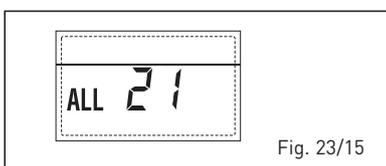

Fig. 23/15
- **INTERVENTION THERMOSTAT SECURITE DEUXIEME ZONE MIXTE "ALL 22"** (fig. 23/16)